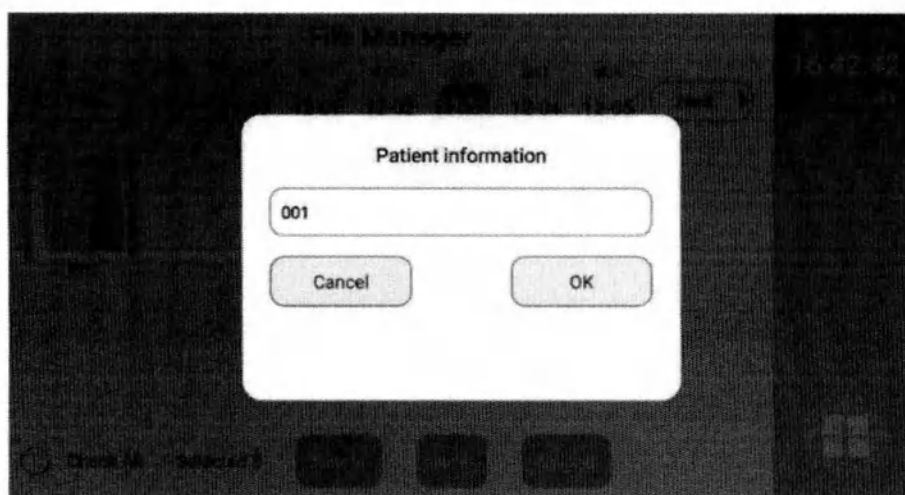

Fig4.27 Folder rename interface (for VS610 only)
4.4.2. In the "File Manager" page, Click the number at the bottom of the folder, the system will automatically pop up the "patient information" box, and the patient information can be noted. (See Fig4.26, Fig4.27)